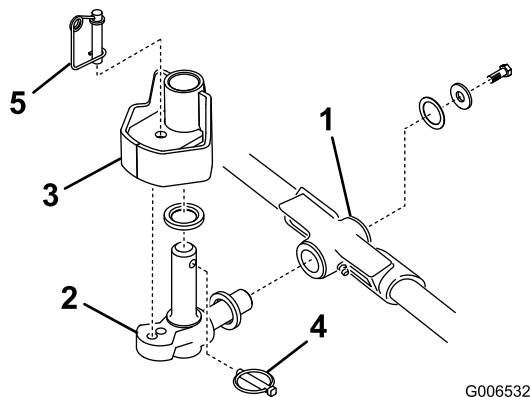

Figure 17
1. Insert a thrust washer onto horizontal shaft of pivot knuckle as shown in Figure 17.
2. Insert the horizontal shaft of the pivot knuckle into the mounting tube of the carrier frame (Figure 17).
3. Secure pivot knuckle to carrier frame with a thrust washer, flat washer and a flange head capscrew (Figure 17).
4. Insert a thrust washer onto vertical shaft of pivot knuckle (Figure 17).
5. If removed, insert the vertical shaft of the pivot knuckle into lift arm pivot hub (Figure 17). Guide the pivot knuckle in place between the two rubber centering bumpers in the under side of the lift arm steering plate.
6. Insert the lynch pin into the cross hole on the pivot knuckle shaft (Figure 17).
Note: If fixed cutting unit position is required, insert steering locking pin into pivot knuckle mounting hole (Figure 17).
11. Hook spring wire around bottom of steering locking pin (Figure 17).